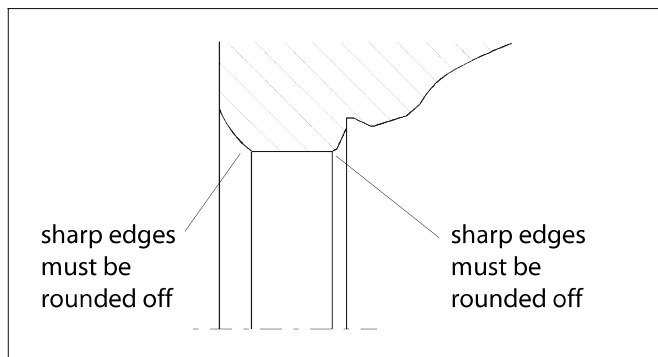

Fig. 15 Rounding the sharp edges
- ❑ Clean the flow port that houses the seat. Remove any burrs. Round off the edges using a fine abrasive paper and clean the flow port carefully, see Fig. 15.